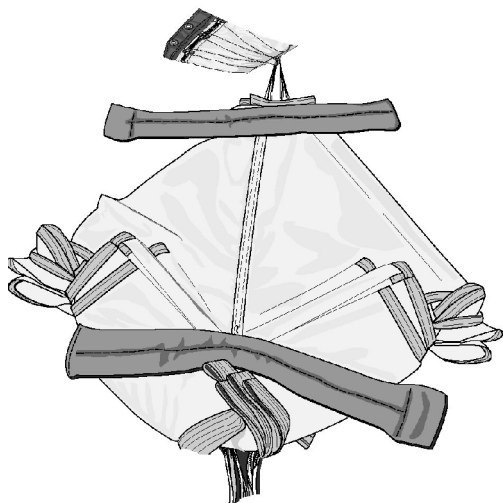

Figure 9. Drogue Parachute Canopy (Leftside) Panel Fold
- j. Repeat step i, for left side and reposition shot bags (Figure 9).